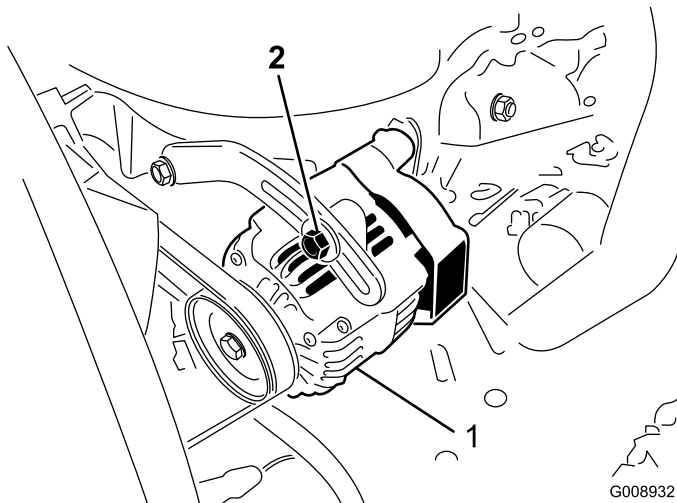

Figure 64
Check the condition and tension of the belts (Figure 64) after every 100 operating hours.
2. If the deflection is not 3/8 inch (10 mm), loosen the alternator mounting bolts (Figure 64). Increase or decrease the alternator belt tension and tighten the bolts. Check the deflection of the belt again to ensure that the tension is correct.